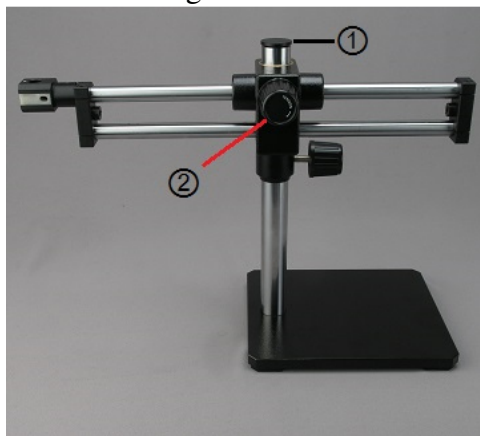

Fig. 3
4.3 Remove cap ① from the vertical pole. Insert horizontal rack as in Fig. 3.